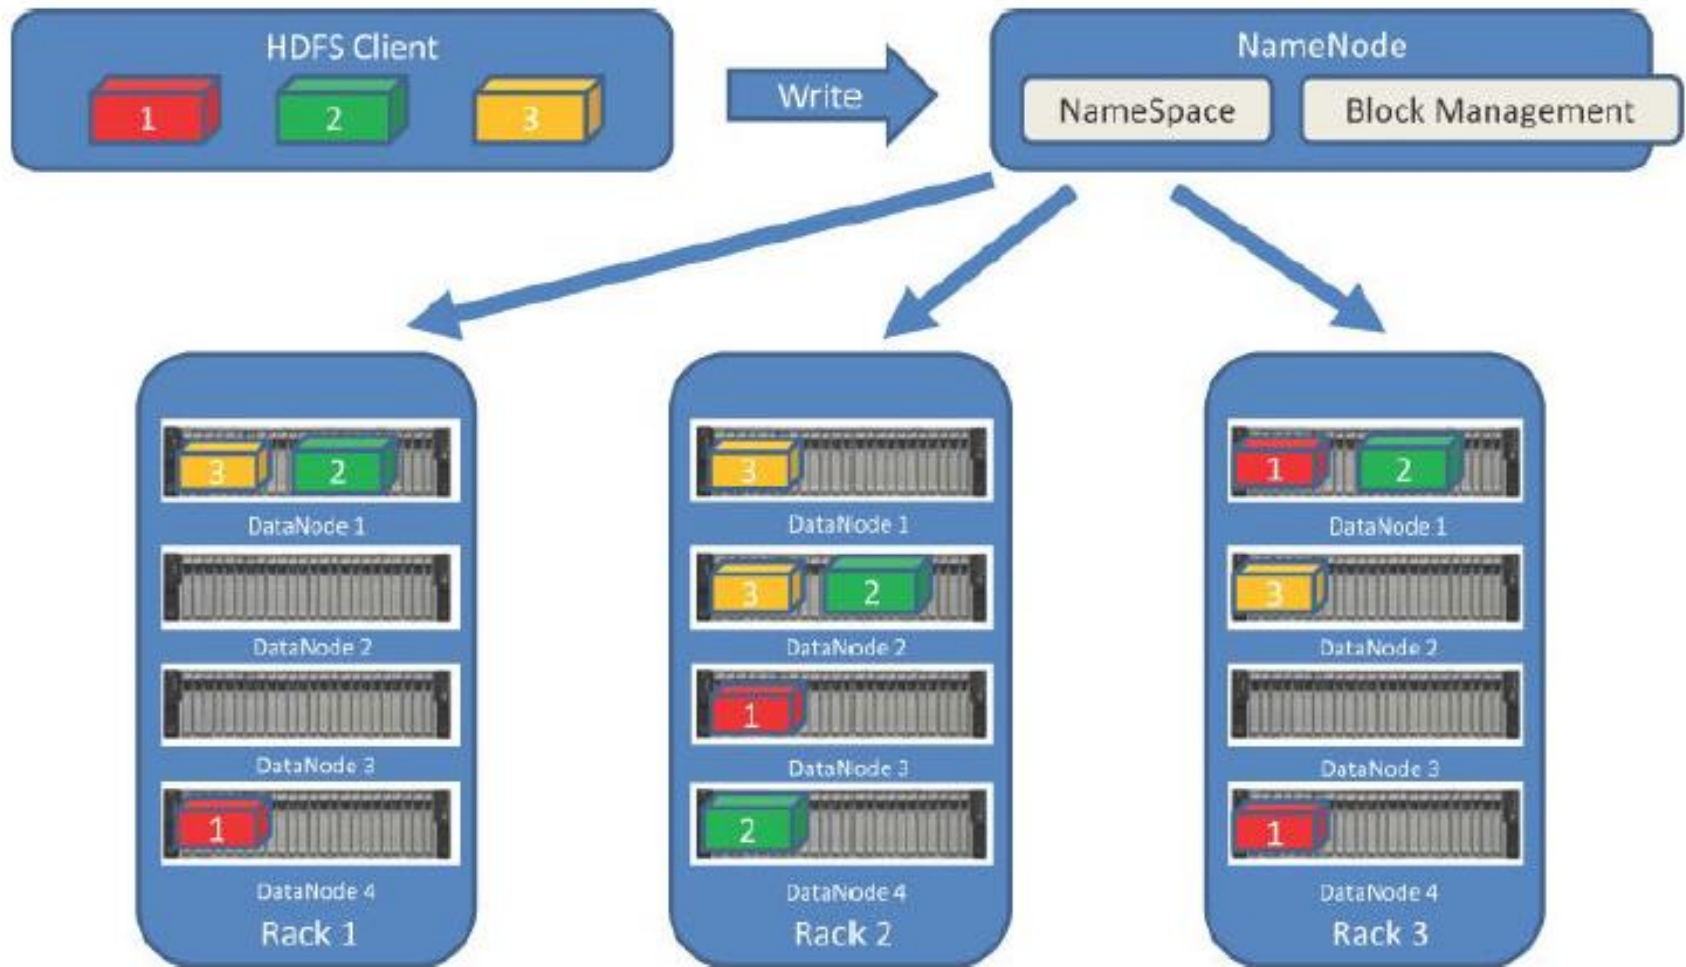

Figure 7.9 : Writing a File to HDFS
- The figure 7.9 shows **the relationship** between **NameNodes and DataNodes** and how data blocks are distributed across the cluster.